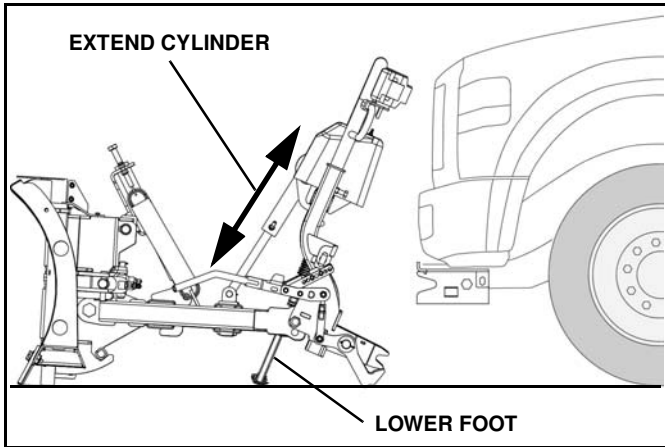

Figure 1-29
2. Using Down Pressure™, extend the cylinder (lower the plow) until the lift cylinder is fully extended. Lower the foot. (See Figure 1-29).